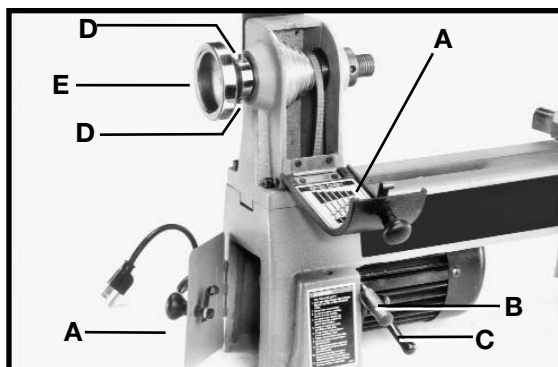

Fig. 27
2. Open the two access doors (A) Fig. 27.
3. Hold the handle (B) Fig. 27, and loosen the locking lever (C). Pull up on the handle (B) to remove tension on the drive belt and then tighten locking lever (C).
4. Loosen the two set screws (D) Figs. 27 and 28, and remove the handwheel (E).